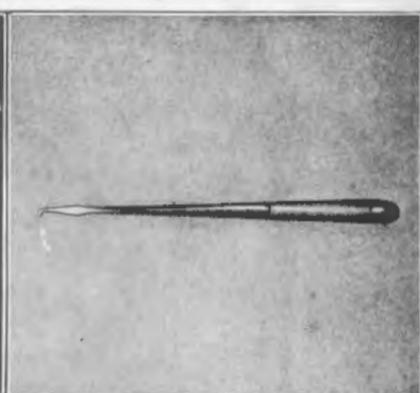

Fig. 315
- 538** To replace the bands, insert end of band from which lug has been removed into right side of the transmission (See Fig. 311), forcing the band around until it is possible to reach the square hole with the hooked tool shown in Fig. 315. When the end of the band has
545 The only special tool actually required is the one shown in Fig. 315. It is made by bending over the end of a screw driver approximately one quarter of an inch and can easily be made in the dealer's shop.